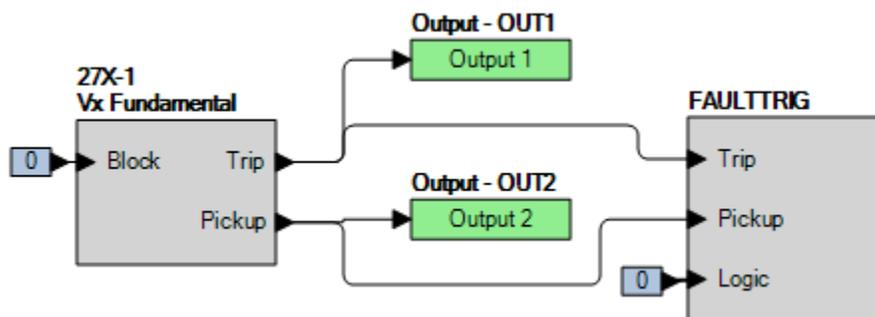

Figure 42-2. BESTlogicPlus Settings (Vx Fundamental Mode)
- Step 2: Use *BESTCOMSPlus* to configure the *BESTlogicPlus* programmable logic shown in Figure 42-2.